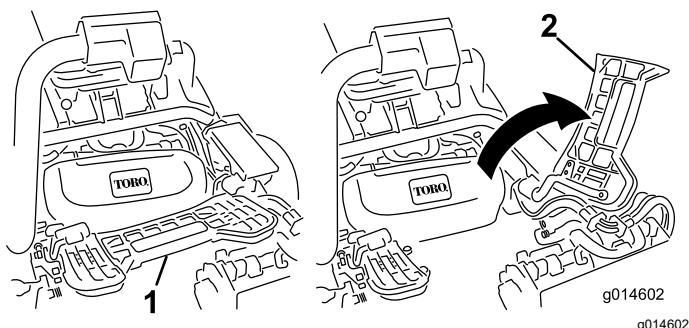

Figure 60
2. Lift up on the foot rest and swing it open, allowing access to the center cutting unit position (Figure 60).